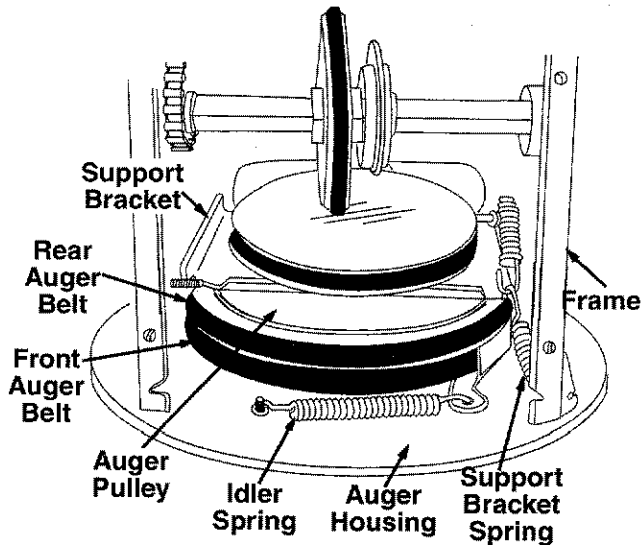

Figure 20
- Unhook the idler spring from the hex bolt on the auger housing. See Figure 20.
- Lift the rear auger belt from the auger pulley, and slip belt between the support bracket and the auger pulley. See Figure 20. Repeat this step for the front auger belt.